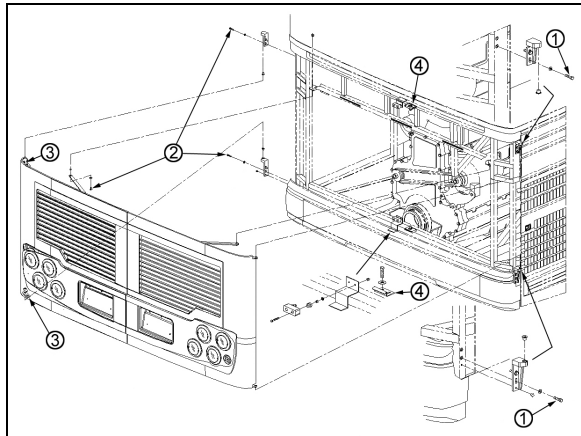

FIGURE 33: ENGINE COMPARTMENT DOORS 18633
1. Loosen the bolts, (1, 2 Fig. 33) holding the hinge to the vehicle structure to shift the door "UP or DOWN".
2. Loosening the bolts (3, Fig. 33) allows the door to be shifted "LEFT or RIGHT" and "IN or OUT".
To adjust the latch mechanism (4, Fig. 33) and the striker pin: